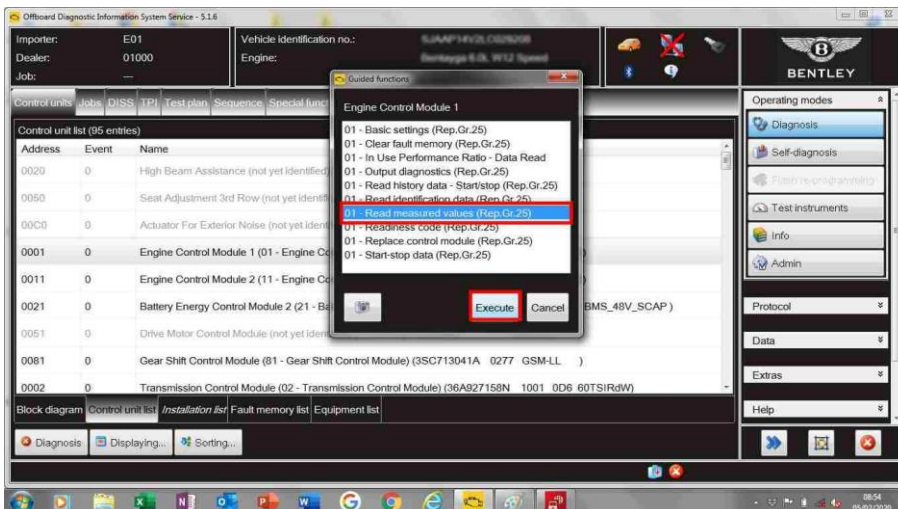

Figure 3
- Select **“Read measured values”** and then **“Execute”** – Figure 3.